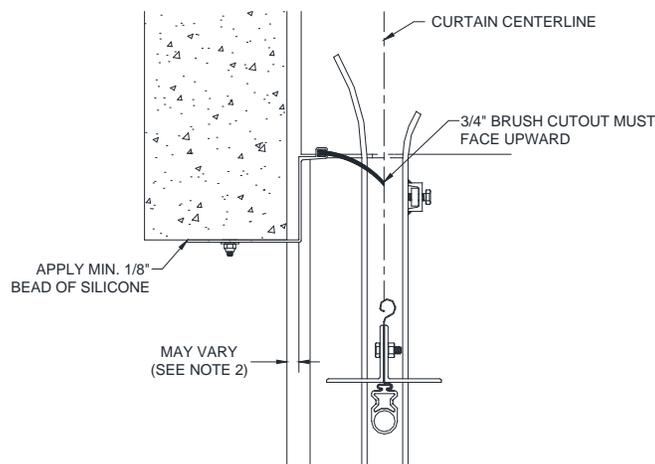

Figure 9.2 - "Z" Shaped Lintel Seal
4. Place the lintel seal at the bottom of the lintel with the vinyl contacting the curtain (in the closed position) with the bristles pushed to about a 45-degree angle. **NOTE:** When installing the brush, notice the bristles are different lengths, face the side with shorter bristles upward toward the coil to allow the vinyl to contact the curtain. (See **Figure 9.2**)
9. Once lintel seal is mounted in place apply silicone to the locations identified above in *Figure 9.2*.